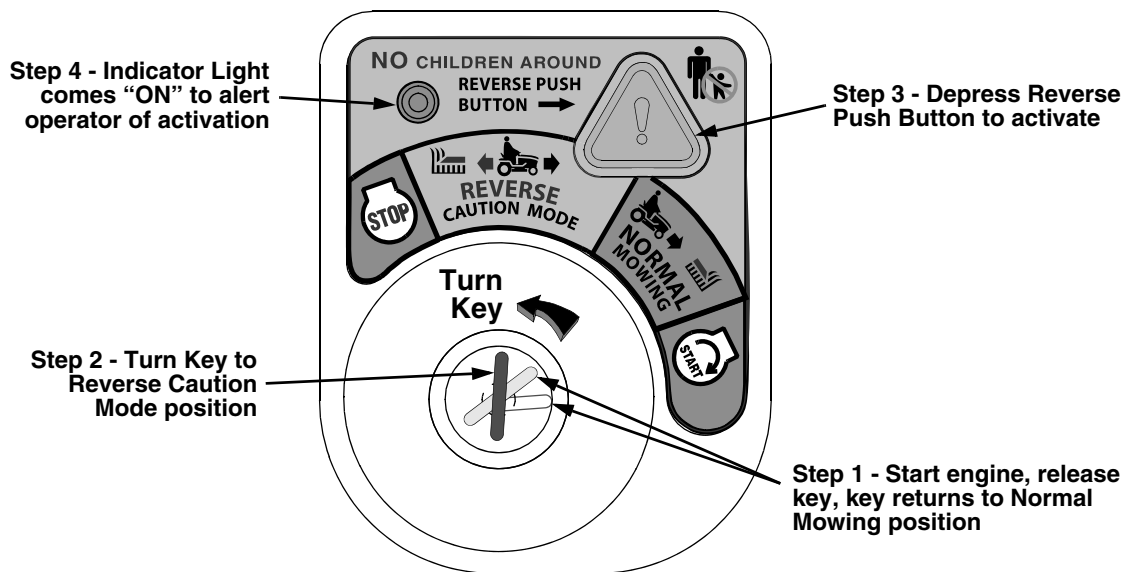

Figure 10
MODE” (Yellow) position of the key switch module. Refer to Figure 10.
3. Depress the “REVERSE PUSH BUTTON” (Orange/Triangular Button) at the top/right corner of the key switch module. The red indicator light at the top/left corner of the key switch module will be “ON” while activated. Refer to Figure 10.